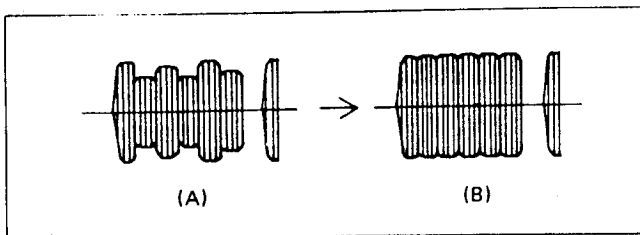

Fig. 6-9
2. Connect an oscilloscope to (27) pin of IC301.
3. Adjust BELL TRANSF. (T301S) for the flat waveform as shown in Fig. 6-9-(B).
4. Connect a digital voltmeter to pin (26) of IC301.